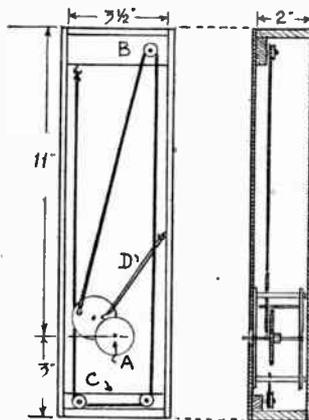

Fig. 1
Fig. 1 shows a view of the interior works and a side section. The front and back of the case can be made of  $\frac{1}{8}$  in. fretwood, the sides of slightly thicker stuff, say,  $\frac{1}{2}$  in. wood. Both back and front are cut to the same dimensions, and in the front only, at centre (A), a hole,  $\frac{3}{8}$  in., is bored through to allow the spindle carrying the pointer to pass. In the side pieces, three holes, 1 in. diameter, are bored through each to let air pass to the inside. These should be covered on the inside with fine porous material, like muslin for instance, to exclude dust.
To tension the string, a rubber band, or better still, a helical spring, is hooked to the spring wheel, opposite the string, and is then stretched, as at (D) to a screw hook, driven in the side of the case. A study of the interior shown in Fig. 1 will make the above clear. A careful adjustment of both string and spring should be made, until a pressure of the finger against the string makes the central spindle twist a little, and resume its former position when the pressure is released. The minute hand of the clock is pushed on the spindle to act as the pointer of the instrument.